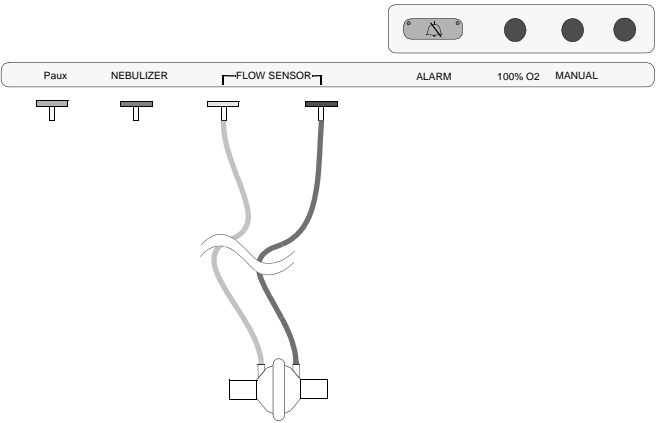

Figure 10-19. The Flow Sensor connected to the GALILEO
- 3. Connect a Flow Sensor (but without patient tubing) to the GALILEO. (Figure 10-19.)